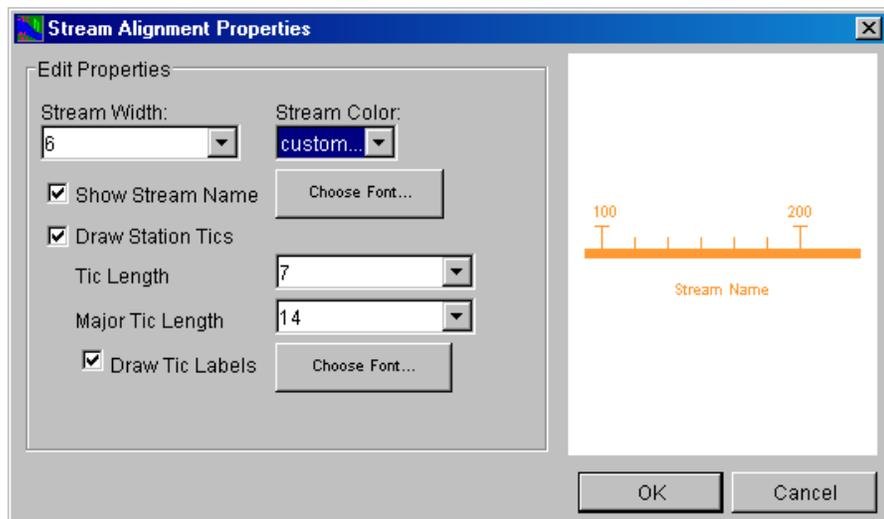

Figure 5.26 Stream Alignment Properties Dialog Box
4. The **Stream Alignment Properties** dialog box (Figure 5.26) will open.